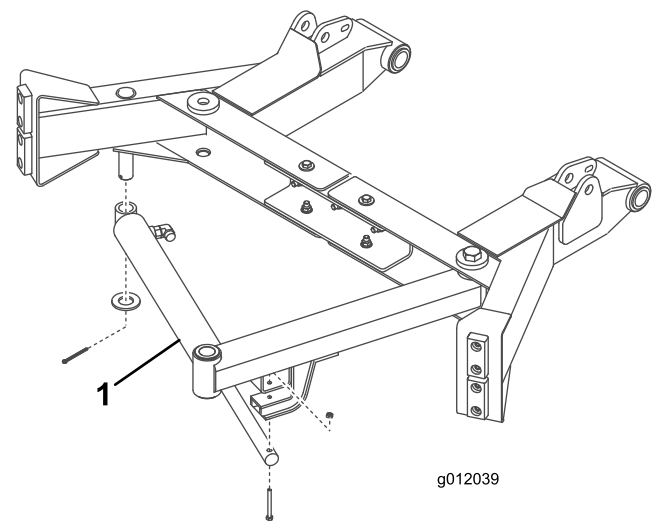

Figure 12
1. Secure cylinder to post on underside of right lift arm with a 1.063 x 2.000 flat washer and cotter pin (Figure 12).
2. Secure shaft end of cylinder to mounting gusset on under side of left broom arm with a M6-1 x 60 capscrew and M6 locknut (Figure 12). Torque the locknut to 87-105 in.-lb.